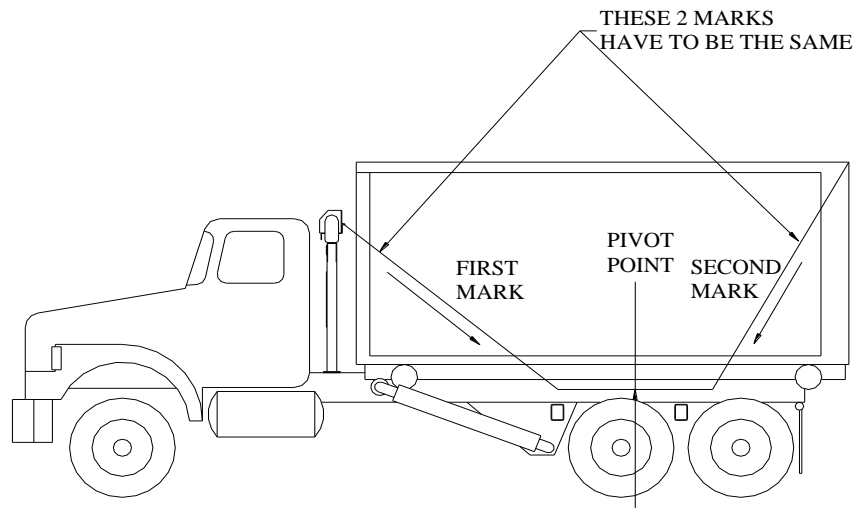

Figure 5
- 3) Measure from the first mark to the second mark, divide that measurement in half and make a mark. This is where the pivot pin in the box needs to be centered. (Refer to **Fig. 5**)